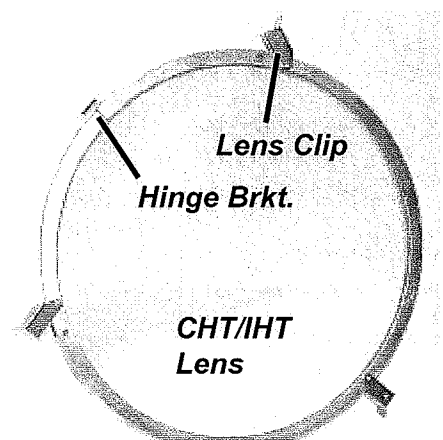

Fig. 10
1. Fixture comes pre-assembled along with (2) #8 octagon box screws ready for hanging.
2. Remove bottom lens to access the screw heads. Start the (2) #8 screws up into the octagon box so the fixture hangs off of the ceiling allowing room for wiring.
4. Push wiring up into the octagon box and finish tightening (2) #8 screws so fixture is tight to the ceiling. *Note: Take care not to pinch the wiring!*
5. If required, re-attach bottom lens (see below for Atrium or Fig. 10 for CHT).